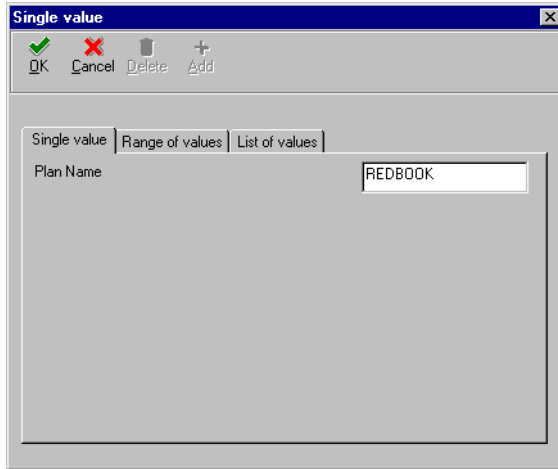

Figure 75. OneWorld Planner Validation Report data selection (Part 1 of 3)
6. Enter your custom installation plan name assigned when you first created your custom plan in 9.1.3.3, “Creating a custom installation plan” on page 189. Your display should look similar to the example in Figure 75 on page 208, except for your plan name.